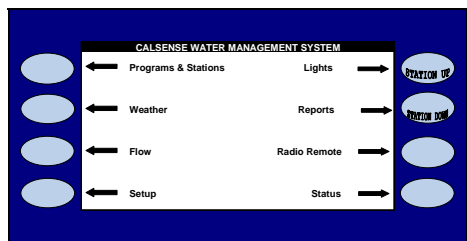

Figure 5.1
From the MAIN MENU screen (Figure 5.1):
7.  Press the **MAIN MENU** key to return to the MAIN MENU screen (Figure 5.1).